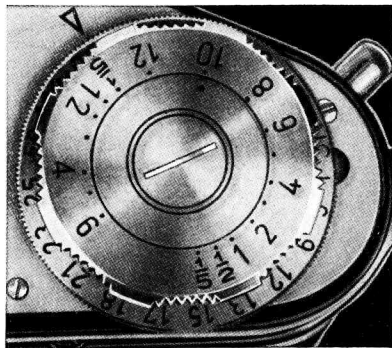

Fig. 12
These two settings (B and T) are used for long time exposures over 12 seconds, because the time setting work of the EXAKTA VX allows for exposure times up to 12 seconds (see below!). Longer exposure times than 12 sec. are controlled by counting the seconds or with a watch. In this case you must definitely use a tripod (camera retaining screw [42] on camera base) or place the camera on a stable support (table, wall, etc.), whereas fast exposures of $1/25$ down to $1/1000$ sec. are possible as "hand-held" shots. With the slow speed knob (17) it is possible to set exposure times longer than $1/25$ sec. (17) (Fig. 12). The fractions of seconds (e. g. $1/5$ sec.) are indicated on the slow speed knob (17) as fractional numbers, while all the whole numbers mean full seconds (e. g. 1 = 1 sec., 2 = 2 sec. etc.). The black figures are for exposures immediately after releasing. The red marks, however, indicate that the shutter opens about 13 seconds after releasing, the self-timer permitting yourself to step in the picture. In other words, the photographer operating the camera can take a picture of himself. The time regulation mechanism and the self-timer of the EXAKTA VX Ila function practically free from noise and must be operated strictly as follows:
- a) Set the fast speed knob (8) on T or B.
- b) Before handling the slow speed knob (17) cock the shutter, by swinging around the film transport lever (6) as far as it will go. Then firmly turn the slow speed knob (17) clockwise as far as it will go, in this way winding the time regulation